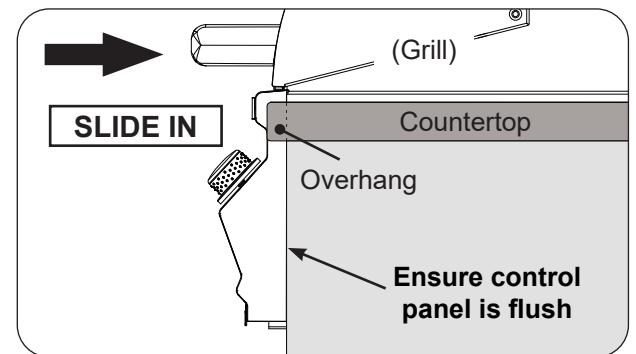

Fig. 21-2 Slide in unit (ensure flush)
1. Carefully slide the unit into the cutout in the enclosure (see Fig. 21-2).